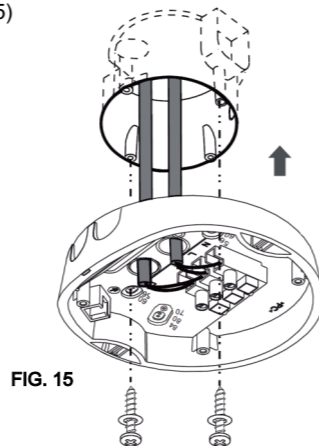

FIG. 15
3.4.2.3 Select appropriate distance from the bottom base mounting holes, to fix the bottom base onto European standard junction box with two wood screws (See FIG.15)